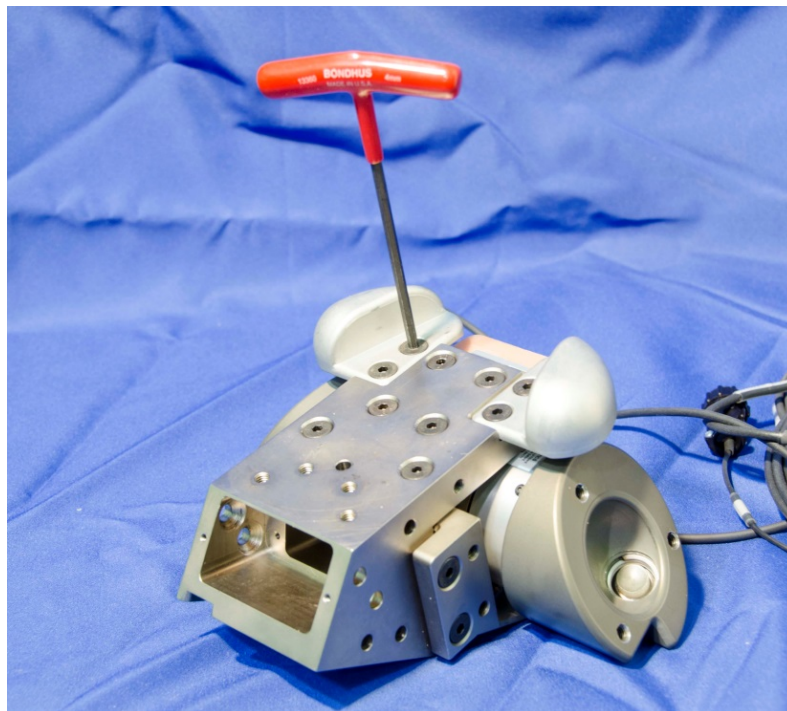

Figure 10-18. Attach D-points to pelvis base module
10.2.2.12 Attach the Left (472-4340-1) and Right (472-4340-2) D-Points to the front corners of pelvis base module, using four M6 x 1 x 20 FHCS (Figure 10-18).